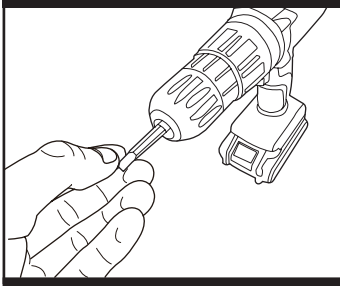

Fig. 7
4. INSERTING/REMOVING A BIT (Fig. 7 & 8)